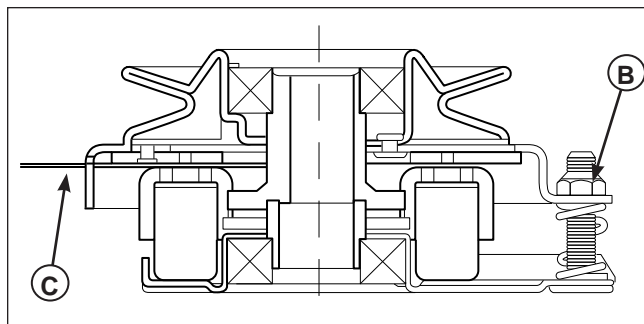

Figure 50. Adjust PTO Clutch
3. Insert a .016"-.018" (0,40-0,45mm) feeler gauge (C) through each window, positioning the gauge between the rotor face and the armature face as shown in Figure 50.
4. Alternately tighten the adjustment nuts (B, Figure 50) until the rotor face and armature face just contacts the gauge.